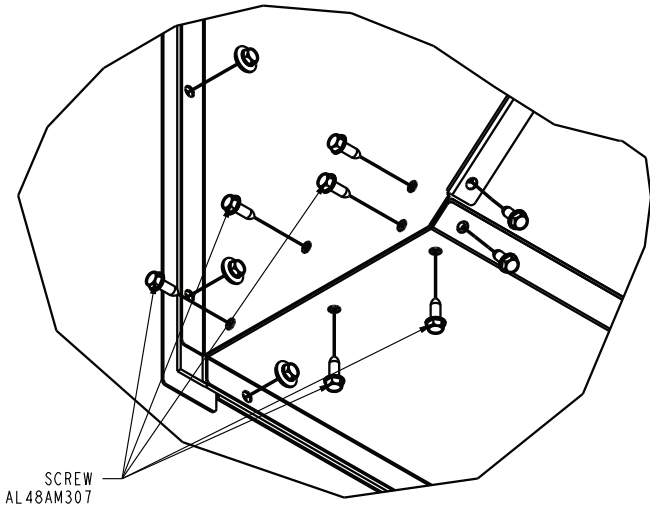

Fig. 71 — Securing the Bottom Panel
8. After attaching bottom panel to unit, attach bottom panel to side panel using the 1/4 in.-14 x 5/8 in. long sheet metal screws (without neoprene washer). See Fig. 71.